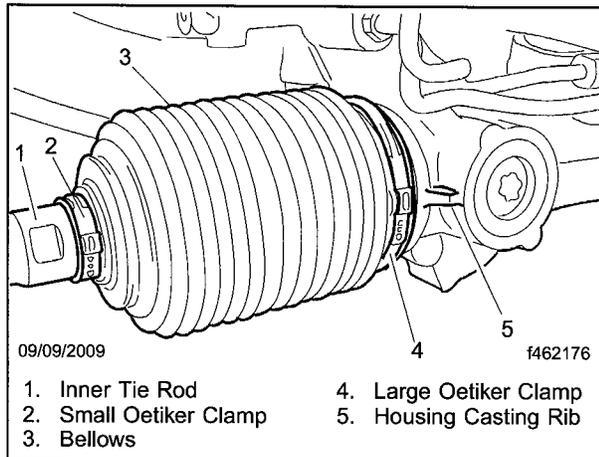

Fig. 11, Oetiker Clamp Alignment
- 12.1 Ensure the large Oetiker clamp is properly seated in the clamp groove on the bellows. Align the large Oetiker clamp ear with the small clamp ear. Both clamp ears should be aligned with the rack housing casting rib. See Fig. 11.